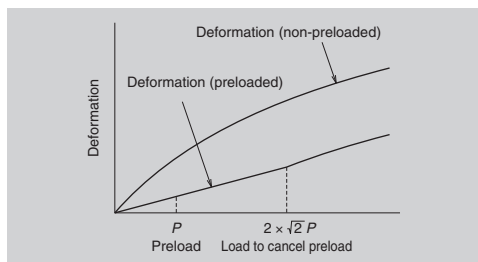

Fig. 3.2 Elastic deformation
(2) Preload and rigidity
- In general, a load range of ball guide system in which the preload is effective becomes about 2.8 times of the preload (Fig.3.2). For roller guide system, it becomes about 2.2 times of the preload.